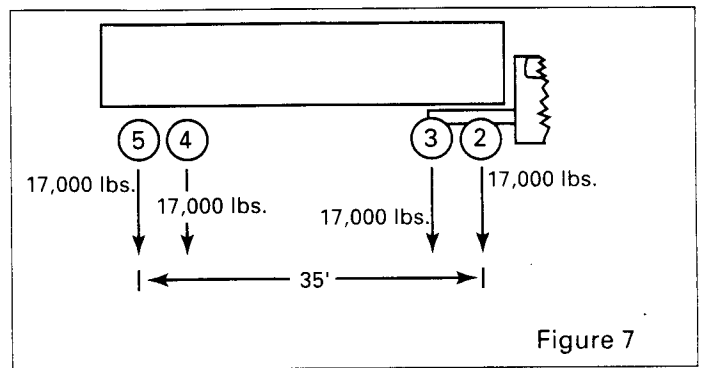

Figure 7
**Now check axles 2 thru 5 (Figure 7)**